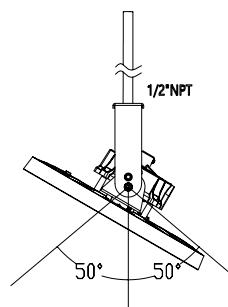

Figure 9
3. Adjust the Angle: The fixture can be tilted up to 50° to the left or right for vertical adjustment. (See Figure 9)